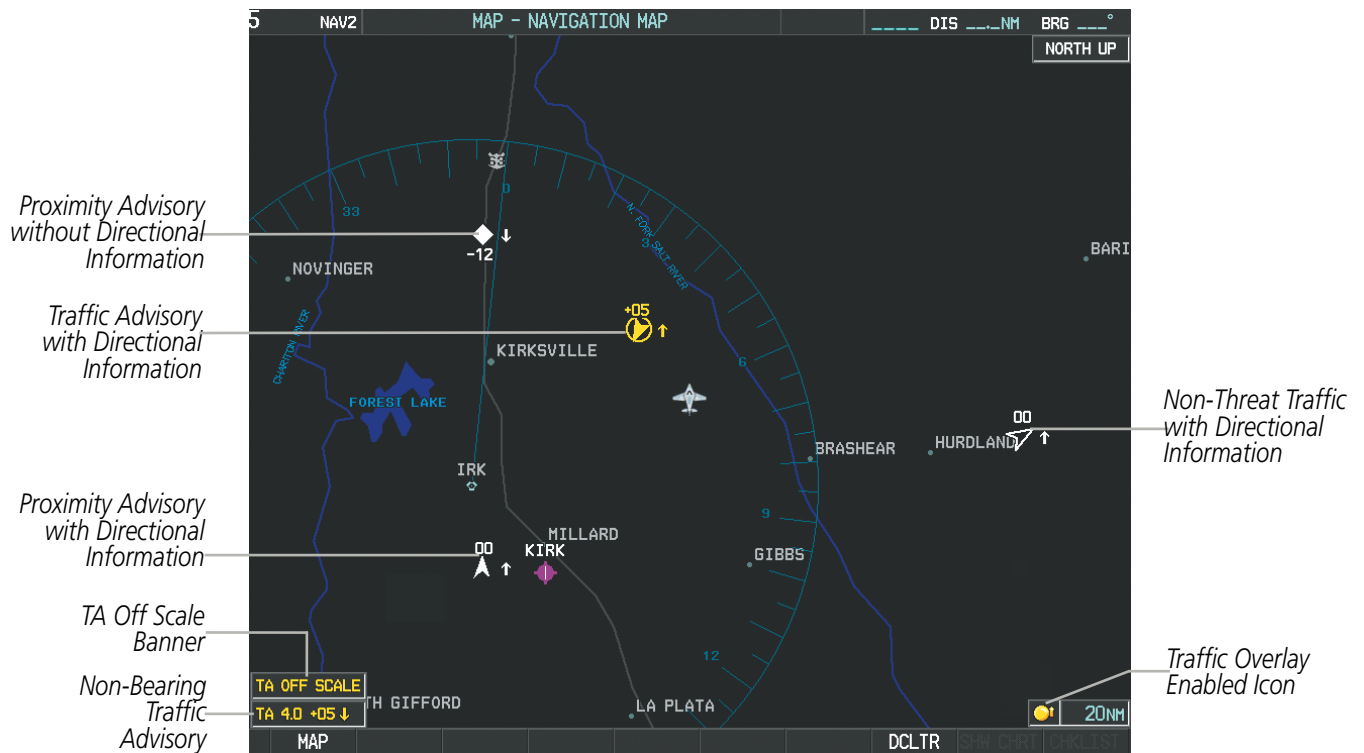

Figure 6-202 ADS-B Traffic on the Navigation Map Page
When traffic is selected on maps other than the Traffic Map Page, a traffic icon is shown to indicate traffic is enabled for display (Figure 6-202).
- 2) Press the **TRAFFIC** Softkey. Traffic is now displayed on the map as shown in Figure 6-202.